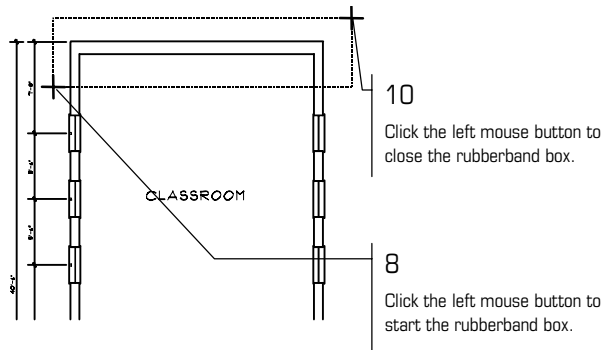

Figure 4.14: Stretching the rear wall
9. Diagonally move the mouse until the rubberband box encloses the rear wall and part of the left and right walls. (See Figure 4.14)